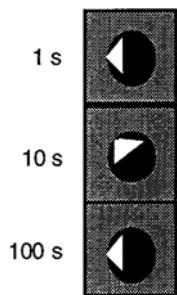

Figure 3-5. Blocks for setting full scale tonnage
2. Find the three rotary switches in a column with white dials on them. See Figure 3-5. They are at the right middle of the main board. These are the settings for full scale tonnage.
NOTE: Make sure the decimal point switch (No. 3 on S6) is set to the "on" position. See Figure 3-5. If not set to "on", push switch all the way to the left with a pen or your thumbnail.